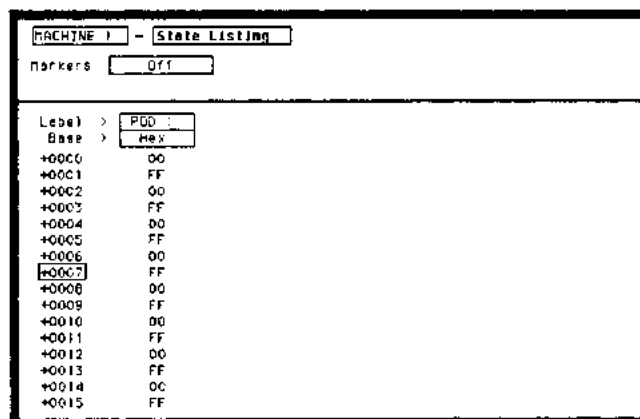

Figure 3-18. State Listing for Data Test 3
6. Press **RUN**. The **State Listing** is displayed and lists alternating Fs and 0s as in figure 3-18.